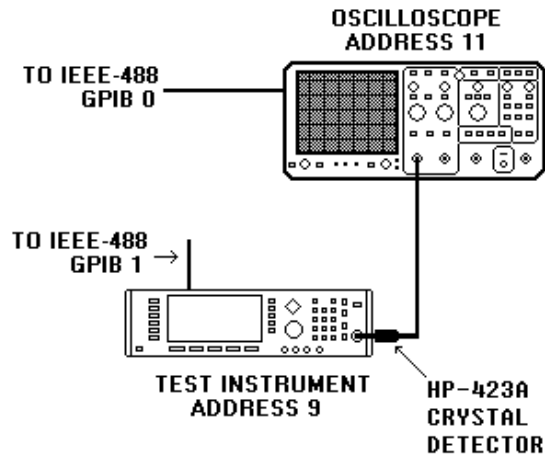

Figure 6. Pulse modulation hookup.
(1) Connect equipment as shown in figure 6 below.